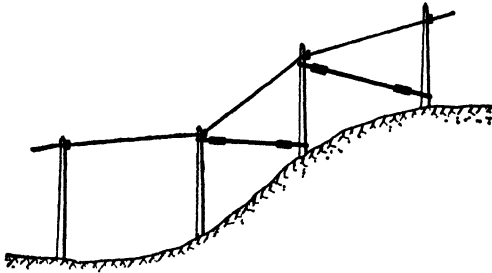

FIG 12-9 Head guys installed on steep grade.
**Hillsides.** Lines on steep hills should be provided with head or line guys, as shown in Fig. 12-9, to take the downhill strain of the line.